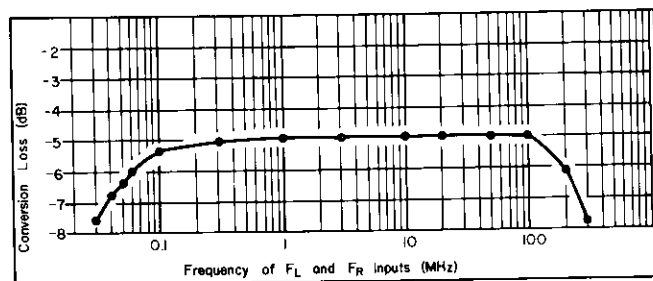

Figure 4. Frequency Response of Conversion Loss
f. Figure 4 represents the conversion loss of a typical Model 10534A, B Mixer used as a mixer (Paragraph 14), or phase detector (Paragraph 15). The lower frequency input is +7 dBm at L and the higher